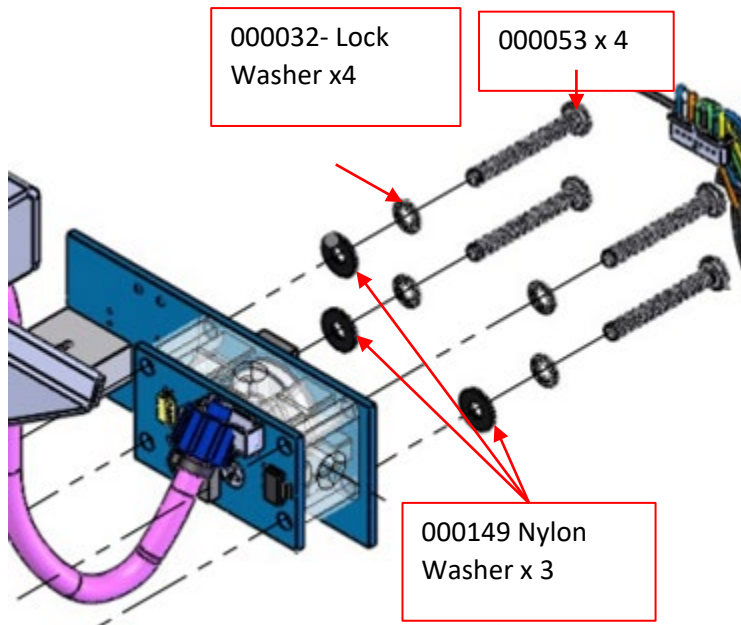

Figure 23
6.4. Install the Reading cell assembly on primary pump bracket by using the parts noted in Figure 23.